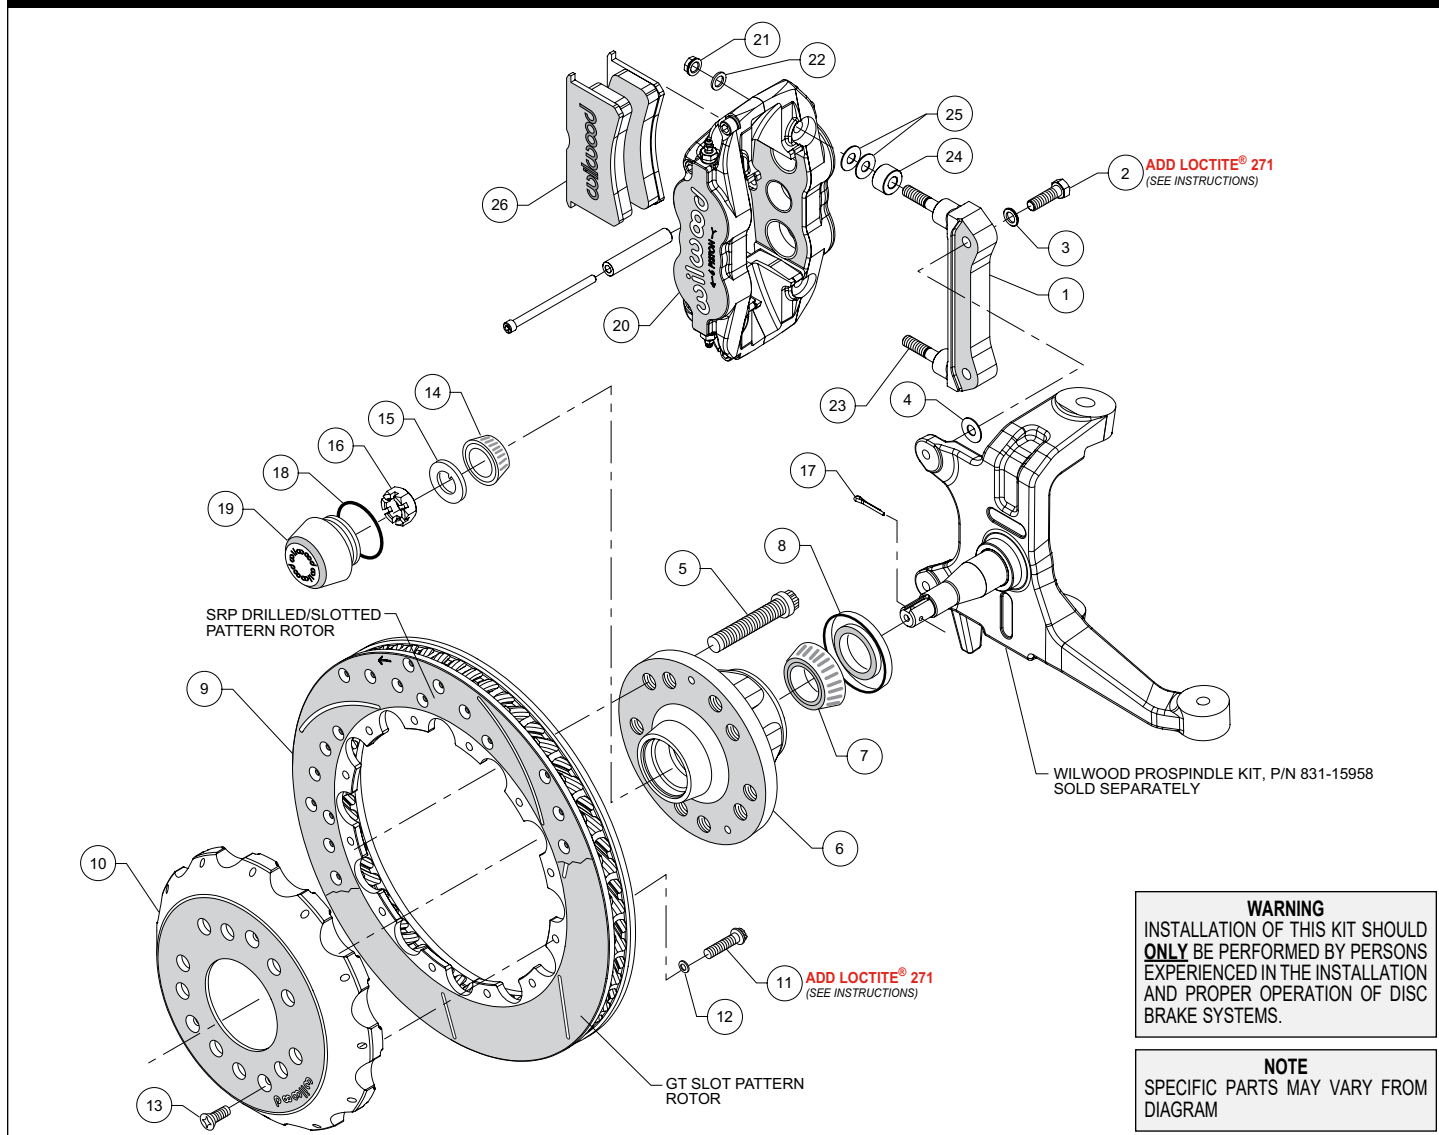
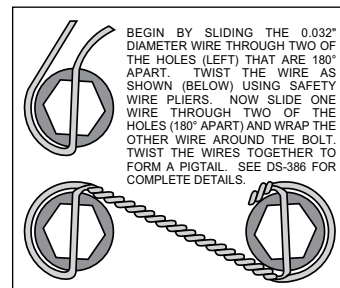

Figure 1. Typical Installation Configuration
Figure 3. Safety Wire Diagram
NOTE: Numbers in parenthesis refer to the parts list and Figure 1 on the preceding pages.
- The caliper mount bracket (1) should initially be installed with clean, dry threads on the mounting bolts. Orient the bracket as shown in Figure 1, and install using bolts (2) and washers (3). Initially place one .035" thick shim (4) on each bolt between the bracket and spindle, Figure 1 and Photo 1. Temporarily tighten the mounting bolts. **NOTE:** *The bracket must fit squarely against the mounting points on the spindle.* Inspect for interference from casting irregularities, machining ridges, burrs, etc. Later, after the caliper alignment has been checked, the mount bolts will be secured using red *Loctite*® 271.
- Screw dust cap (19) into hub (6). Friction created by the o-ring (18) on the dust cap keeps it from unscrewing. **NOTE:** The O.D. of the existing OEM spindle washer may be larger than the I.D. of the dust cap not allowing it to seat against the hub face. Therefore, use the spindle washer (15) supplied with the kit instead of the OEM washer.
- Orient the rotor (9) and the hat (10) as shown in Figure 1 and Photo 5. Attach rotor to hat using bolts (11) and washers (12). Apply red *Loctite*® 271 to the bolt threads and torque to 155 in-lb using a criss-cross pattern. For an added measure of security, the bolts may be safety wired using standard 0.032 inch diameter stainless steel safety wire as shown in Figure 3. Refer to Wilwood's data sheet DS-386 (available at www.wilwood.com/Pdf/DataSheets/ds386.pdf) for complete safety wire installation instructions.
•**NOTE:** This kit contains distinct right and left hand calipers that must be mounted in a specific direction, as described below. Initially place one spacer (24) and two .035" thick shims (25) on each stud (23) between the caliper and the bracket, as shown in Figure 1 and Photo 7. Mount the caliper (20) onto the bracket (1) using lock nuts (21) and washers (22), Figure 1. Ensure that the caliper is mounted so the largest pistons are at the rotor exit end of the caliper, in relation to the direction of rotor rotation. Temporarily tighten the lock nuts and view the rotor through the top opening of the caliper. The rotor should be centered in the caliper, Photo 8. If not, adjust by adding or subtracting shims (4) between the bracket and the spindle. Always use the same amount of shims on each of the two mounting bolts. Once the caliper alignment is correct, remove the bracket mounting bolts (2) one at a time, apply red *Loctite*® 271 to the threads, and torque to 40 ft-lb.